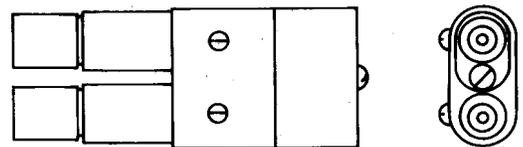

Fig. 19—569A Jack
2.19 569A: This twin-type jack (Fig. 19) has coaxially arranged inner and outer contacts. One end of the jack is designed for mating with the 358C and similar-type plugs. The other end is designed for a solderless shield connection to a 728A cable by means of a sleeve which is furnished as a loose part. The outer contacts are connected together; the inner contacts are arranged to permit strapping. A removable coverplate is furnished to be used in covering on an unused cable entrance hole. The 569A jack is capable of withstanding a 3000 volt ac breakdown test. This jack is used with the L4 System Test.